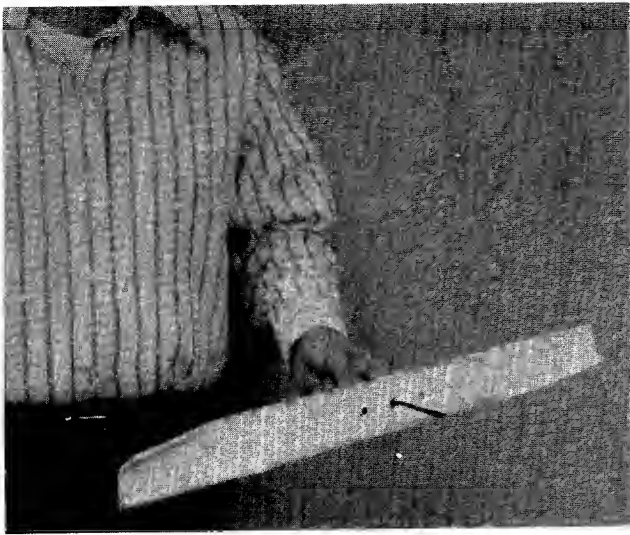

**Figure 15.**
1. Remove the large bolt and lockwasher holding the blade and adapter to the engine blade spindle. (See figure 15.)